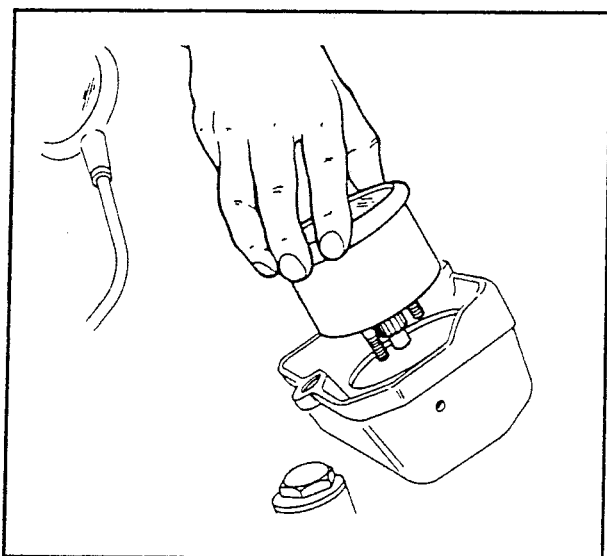

Figure 5-41. Speedometer Removal
2. See Figure 5-41. Remove the Speedometer from housing.